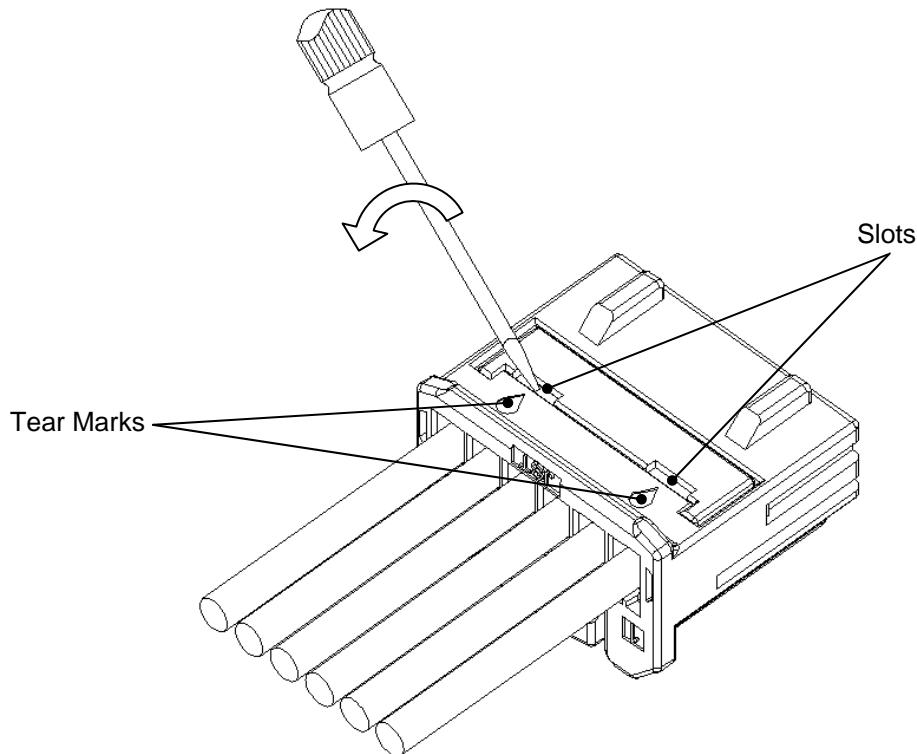

Figure 18. Tear Marks and TPA Release Slots (e.g. 6 positions)
a) To return the TPA to its primary position, a flat 1.5mm width screwdriver is recommended. See Figure 18.
b) Insert the screwdriver to one of the slots as indicated by the tear marks. Gently pry until the operator hears and feels the TPA release. Repeat the procedure for the other slot. See Figures 18 and 19.